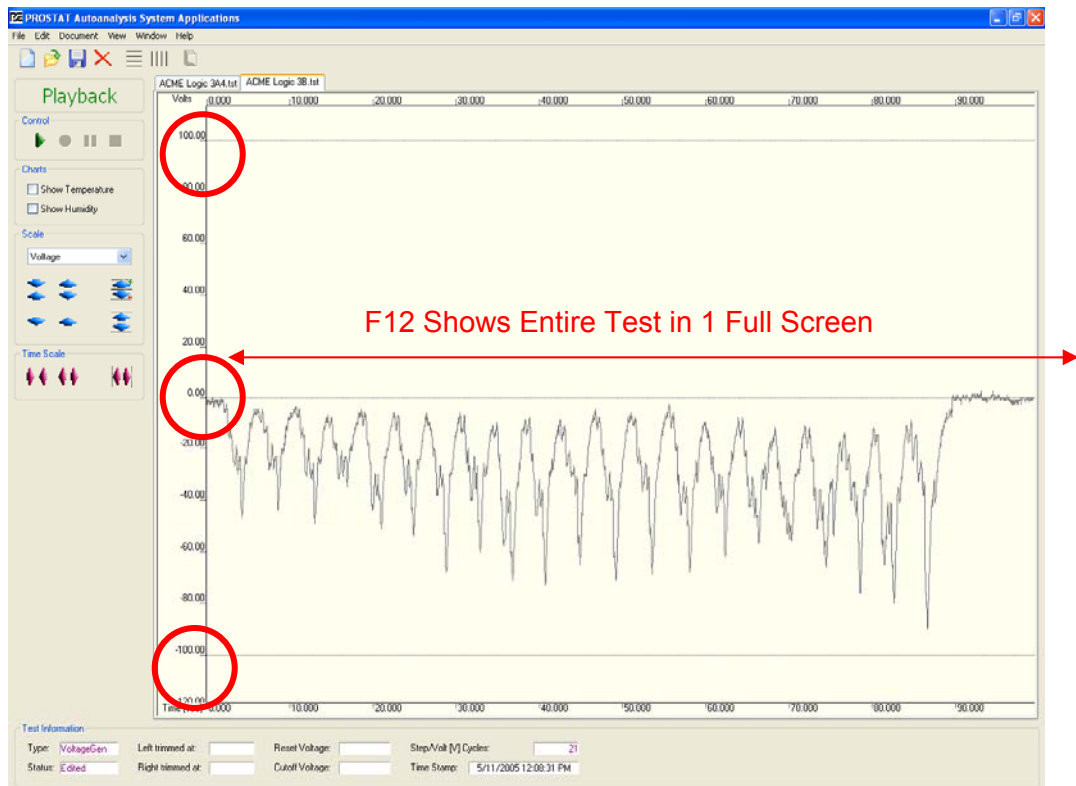

Figure 19: To fit all data on the display horizontally press Time Scale Auto Fit Button (F12)
- a. You may press the **Time Scale Auto Fit**  button or F12 to display the entire test series on the screen (Figure 19)
- b. If desired add lines and labels. In the Figure 19 additional voltage lines and labels were added at ± 100 volts using **Document, Voltage Custom Options** menus.